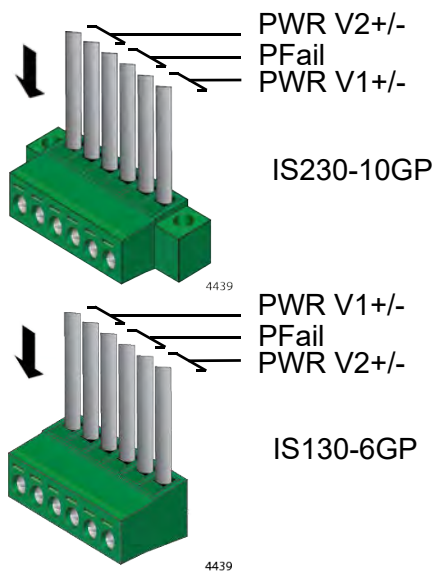

Figure 44. Insert Power Supply and Alarm Wires into Power/Alarm Connector
- Insert the power wires into the wiring slots for V1+ and V1- for the first power supply. If you are installing the wires for a second power supply, insert them into wiring slots V2+ and V2-. Insert the two alarm wires in the two middle wiring slots - pins 3 and 4. There is no polarity for the alarm wires. Refer to Figure 44.